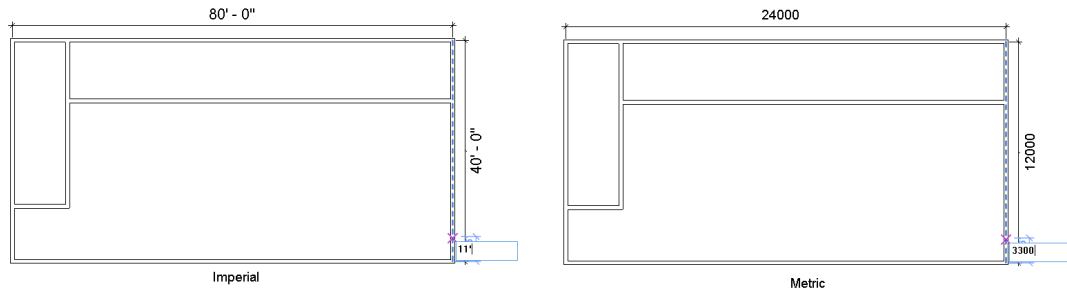

Figure 3-69 Specifying the distance for starting the first interior wall segment
- To sketch the third interior wall, place the cursor toward the lower right corner of the wall segment and move the cursor upward. Enter 11'0" for Imperial or 3300 mm for Metric and then press ENTER, as shown in Figure 3-69; the starting point of the interior wall is specified.